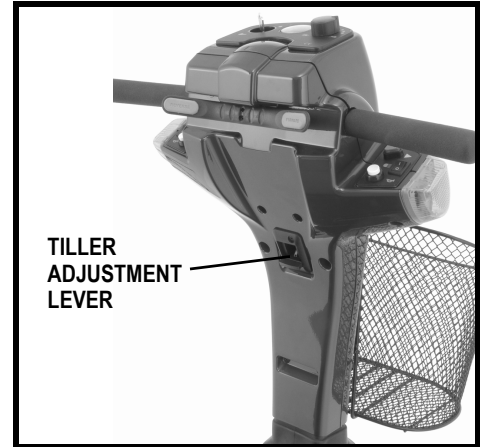

Figure 10. Tiller Adjustment Lever
1. Lift the tiller adjustment lever. See **figure 10**.